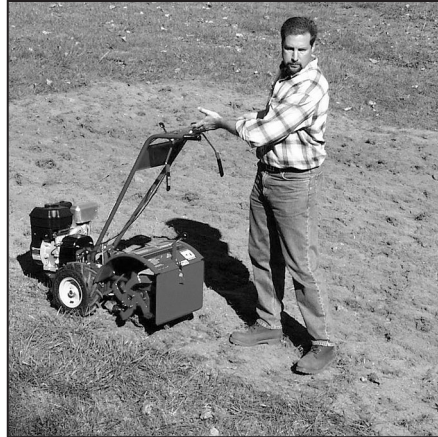

Figure 4-3: Raise tines off ground and look behind when moving in reverse.
- Stop all forward motion before reversing. Lift the handlebars with one hand until the tines are off the ground and then pull the Reverse Clutch Control knob out to engage reverse motion (see Figure 4-3). To stop reverse motion, let go of the Reverse Clutch Control knob.